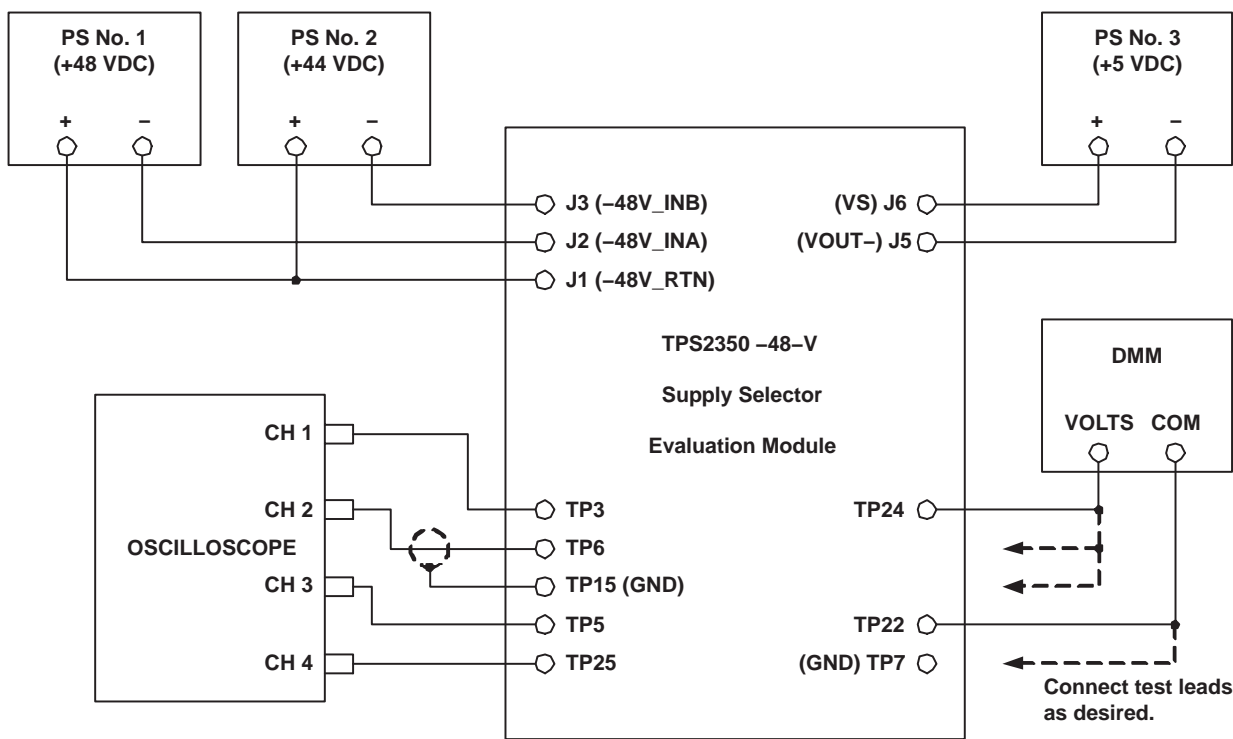

Figure 4. TPS2350 -48-V Supply Selector EVM Equipment Setup
Connect the EVM and test equipment as shown in Figure 4.
Supply connections to the EVM should be made to the banana jacks as shown in Figure 4. The two backplane, 48-V supplies (PS No. 1 and PS No. 2 in Figure 4) connect between J1 and J2 and J1 and J3, respectively. The polarity of the circuit is such that the HI or (+) outputs of the supplies connect to J1,  $-48V\_RTN$ . The LO or (–) jacks connect to J2 ( $-48V\_INA$ ) and J3 ( $-48V\_INB$ ). PCB header J6 (VS) is used to connect an external pull-up source when using the MOD\_EN output of the EVM. This supply is referenced to the VOUT– node at J5.
The EVM can be used to get an illustration of the relationship between current limit, inrush slew rate, load values, and the circuit's fault timing requirements. With DIP switch SW1-1 only closed, the fastest of the preset slew rates is selected, and only the hard-wired timing capacitor C6 is connected to the TPS2350 controller. However, this is sufficient to allow the bulk capacitor C8 to fully charge, from 0 V, across the full range of input supply voltages, down to -80 V. This can be observed by connecting input power as shown in Figure 4, displaying the VOUT- node on an oscilloscope, and enabling the device.